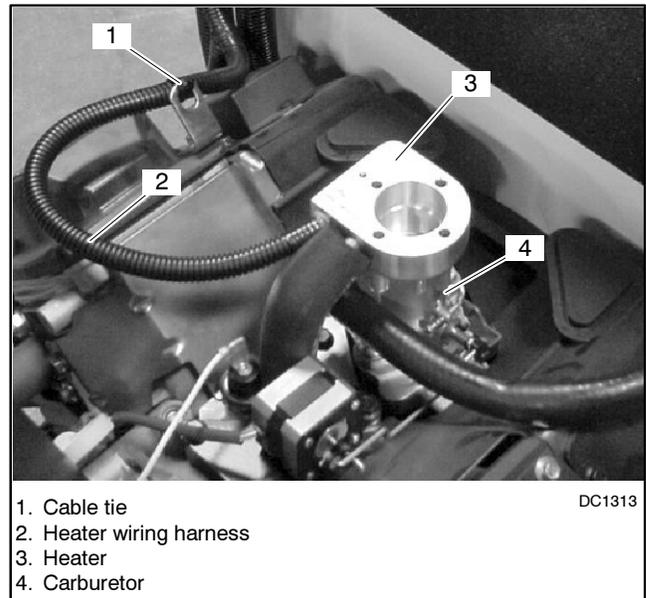

Figure 13 Heater Location
4. Place the heater on the carburetor as shown in Figure 13. Do not use a gasket. Route the power cord toward the back of the generator set.